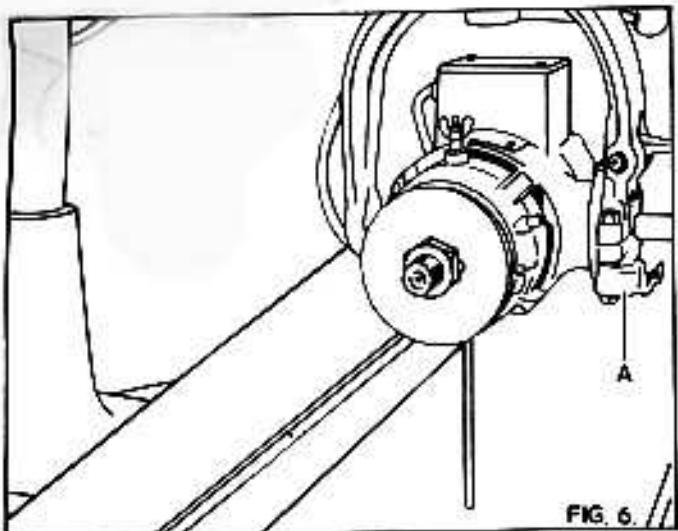
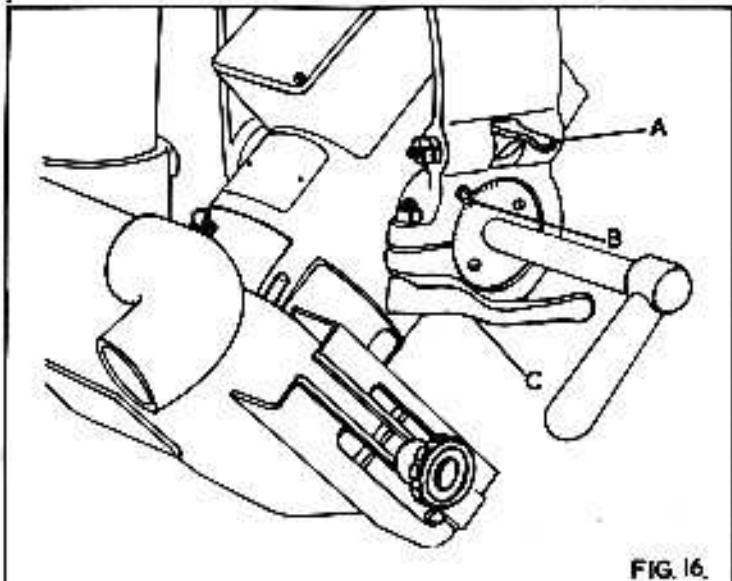

FIG. 6.
FIG. 16.
2. Ensure the motor locating latch "A" in Fig. 6, the stirrup locating latch "B" and the carriage locking screw "C" in Fig. 16 is securely locked.
3. Secure a small dia. rod between saw flanges as shown in Fig. 6 then raise or lower arm until end of the rod almost touches table.
The motor swivels within the stirrup through 90°. The principle angles are located by a tapered latch "A" in Fig. 16.